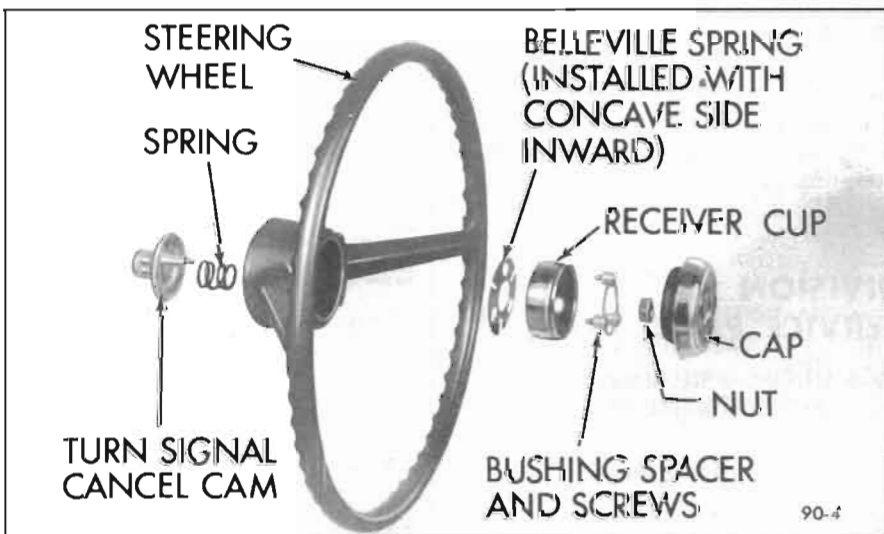

Figure 90-4—Standard Steering Wheel Installation
2. On standard Special Series steering wheels, pry off cap, remove three phillips head screws and take off spacer bushing receiver cup and Belleville spring. See Figure 90-4.